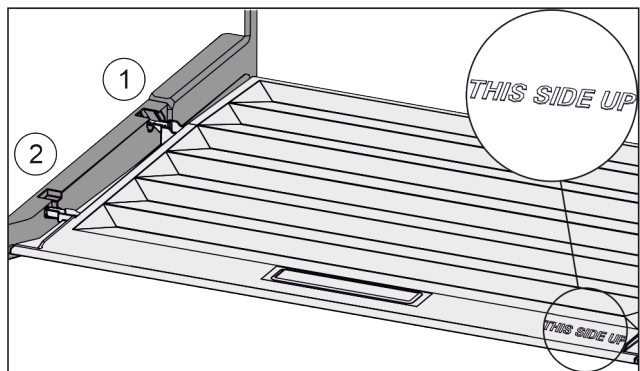

Fig. 103
- ▶ Insert the lip of the cover over the opening of the rear bracket Fig. 103 (1) and click into place Fig. 103 (2).